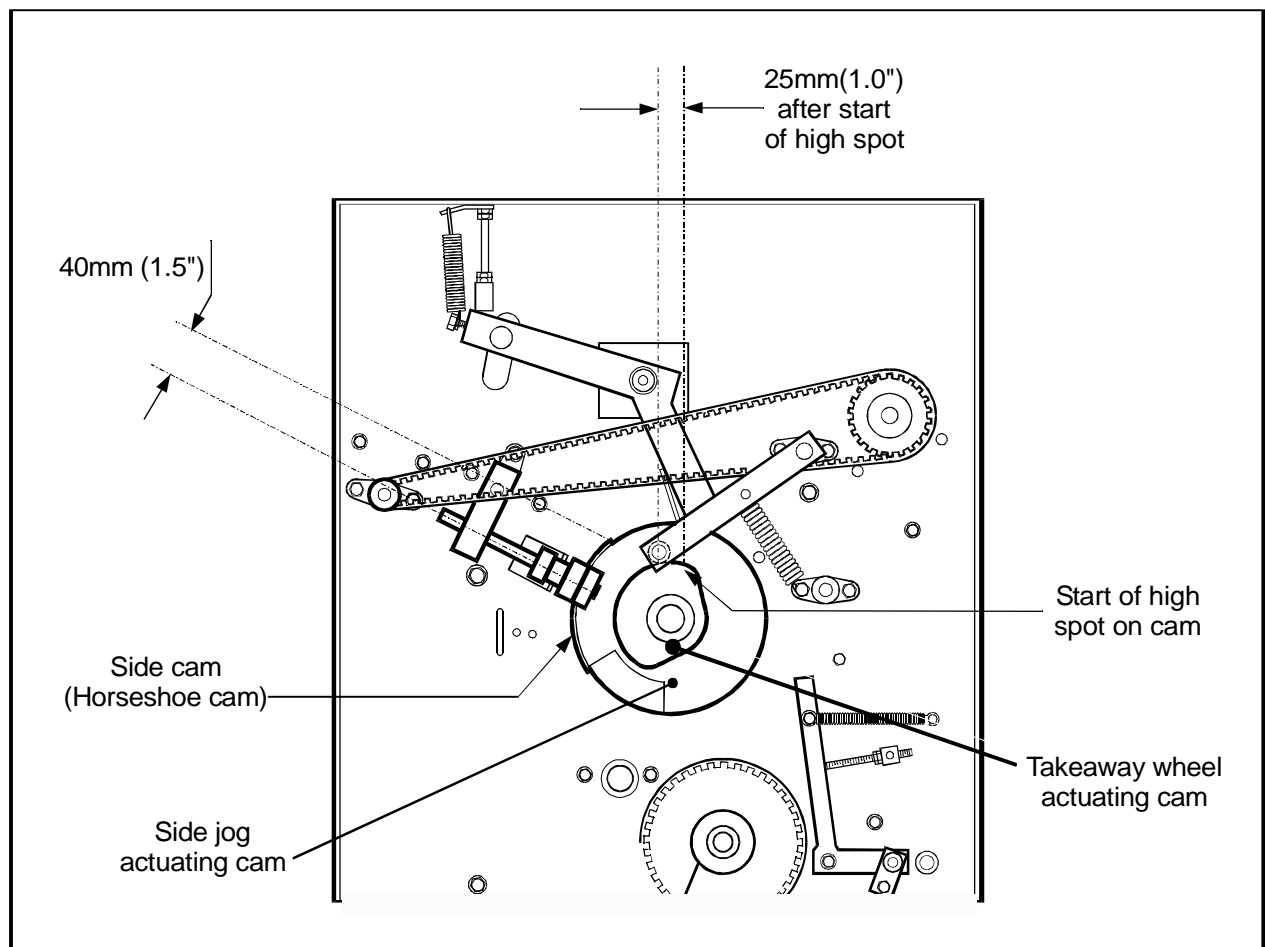

Figure 3.3 - Right-hand side of the Bookletmaker
1. Check the right-hand side of the Bookletmaker to ensure that the cam followers are in the same positions as shown in figure 3.3
The correct timing is for the takeaway wheel to contact the lower wheel in paper table as stapling heads release paper. As a rough guide see figure 3.3.